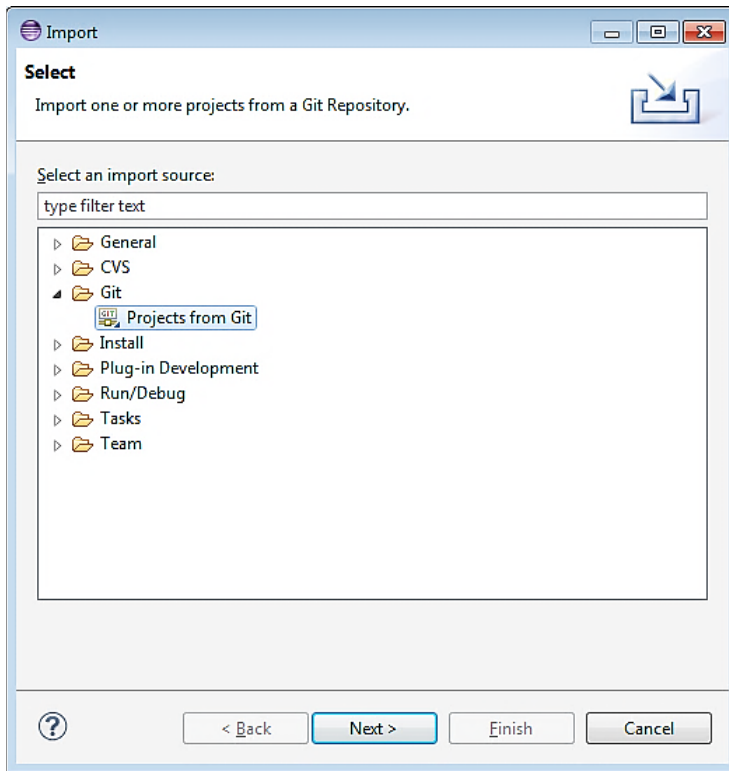

Figure 55: Checking VOLTRON with Eclipse from Local Source (continued)
2. Select Git -> Projects from Git, then click the Next button (Figure 55)